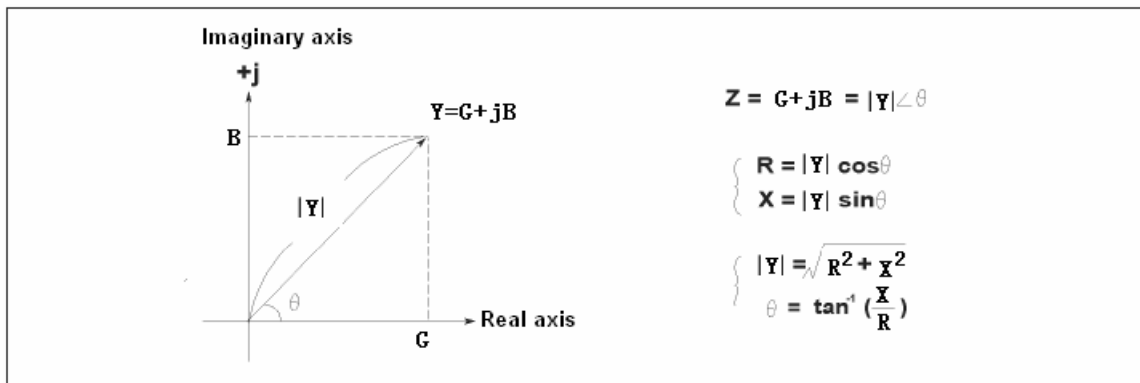

Figure 2 Admittance ( $Y$ ) consists of a real part (conductance  $G$ ) and an imaginary part (susceptance  $B$ )
In some cases, using the reciprocal of impedance is mathematical expedient. In which case  $1/Z=1/(R+jX)=Y=G+jB$ , where  $Y$  represents admittance,  $G$  conductance, and  $B$  susceptance, as shown in Figure 2. It can be physically defined as the opposition a device or circuit offers to the flow of an AC at a given frequency.
The unit of impedance, resistance and reactance is the ohm ( $\Omega$ ), and admittance, conductance and susceptance is the siemen (S). Impedance is a commonly used parameter and is especially useful for representing a series connection of resistance and reactance, because it can be expressed simply as a sum,  $R$  and  $X$ . For a parallel connection, it is better to use admittance (see Figure 2).